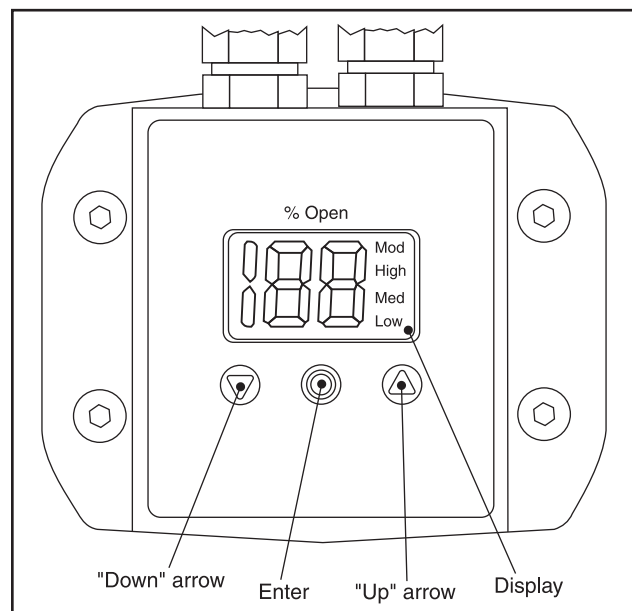

Figure 20
The setting of parameters is managed by means of the integrated ICAD MMI (Figures 20 and 21) and consists of:
- "Down" arrow push button (Figure 20)
- "Up" arrow push button (Figure 20)
- To exit from the Parameter list and return to the display of Opening Degree (OD), keep the push button activated for 2 seconds.
- Display (Figure 20)
- Displays the function status by means of text (Figure 20).
5. When the display on ICAD (Figure 20) is alternating between showing: **CA** and **A1** the factory resetting is complete.